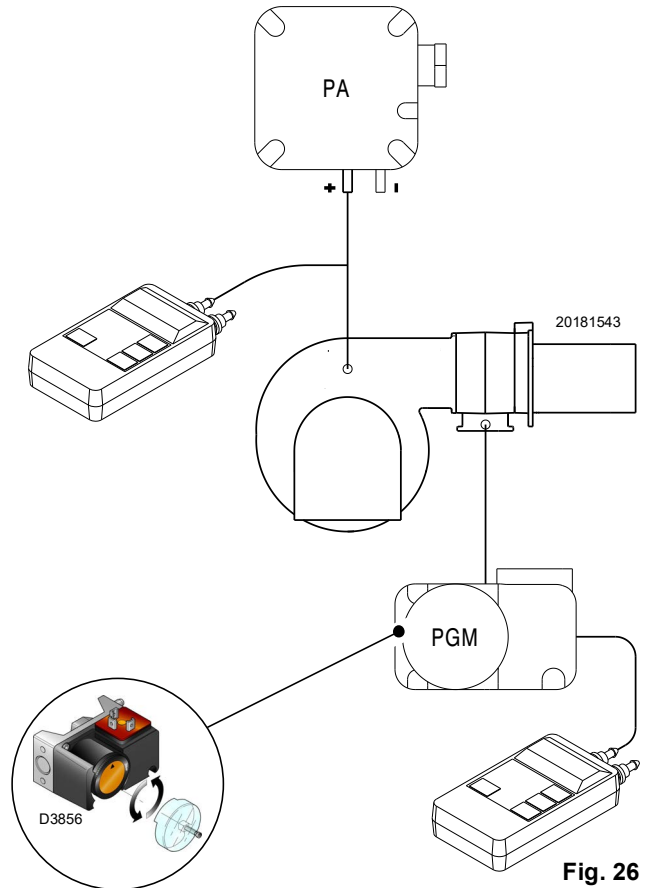

Fig. 26
- Adjust the maximum gas pressure switch (Fig. 26 on page 26) to the end of the scale.
Adjust the maximum gas pressure switch (Fig. 26) after making all other burner adjustments with the maximum gas pressure switch set to the end of the scale.